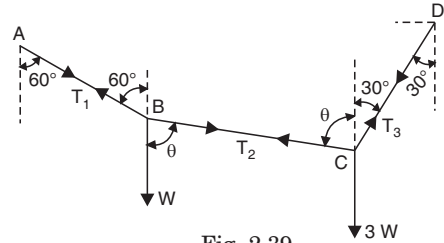

Fig. 2.39
**Sol.** Refer to Fig. 2.39.
Let  $BC$  makes an angle  $\theta$  with the vertical and let  $T_1$ ,  $T_2$  and  $T_3$  are tensions in the three parts  $AB$ ,  $BC$  and  $CD$  of the string as shown in Fig. 2.39. At  $B$ , the forces in equilibrium are  $W$ ,  $T_1$  and  $T_2$ .